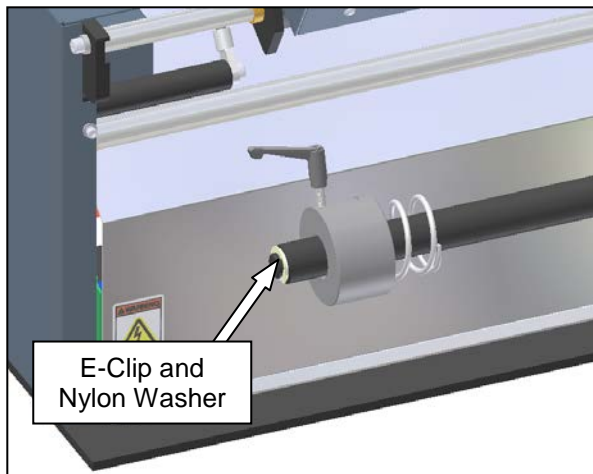

Figure 3-369. Unwind Shaft Components
1. Remove the E-clip and nylon washer from the end of the unwind shaft (Figure 3-369).